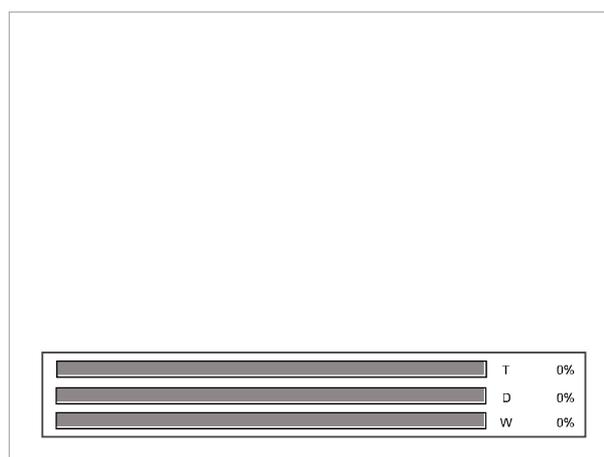

Figure 13. Firmware downloading display
5. The monitor will display the firmware download screen as shown below figure 13.